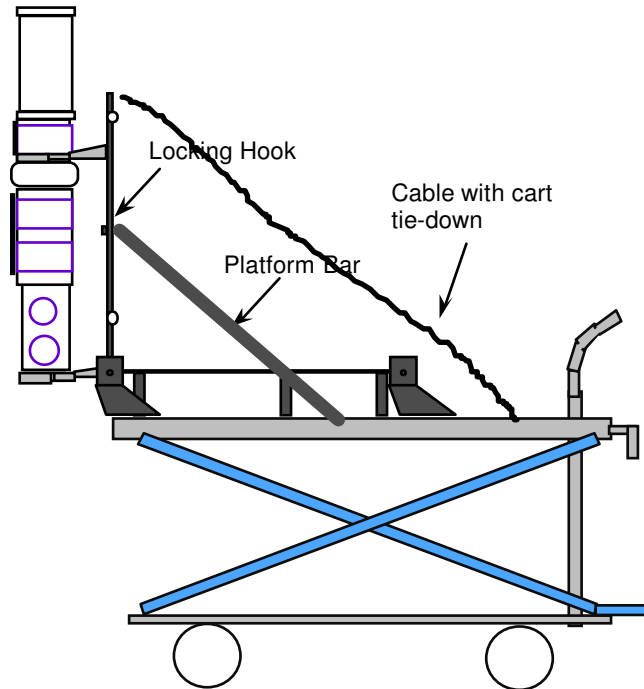

Figure 4. Side View of RM Cart with QB/T/RM Vertical (not to scale)
6.2.3 With one person on each side of the cart to ensure against tipping of the cart, each holding a square support block on the bar near the telescope interface, rotate the RM about its hinge 90 degrees to vertical. A third person raises the platform bar lever and positions it in its locking slot on the RM. Once the bar is locked in place, the others may let go of the QB/RM. See Figure 4 below.